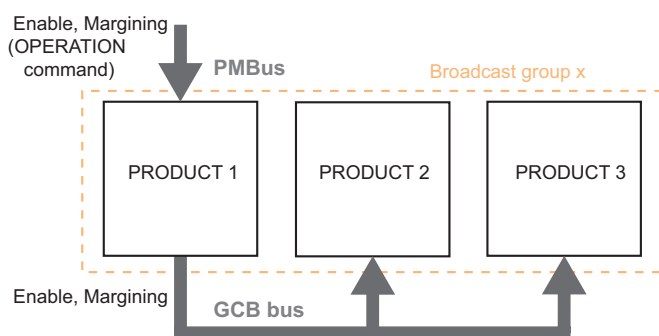

Figure 7. Enable or margining signal will broadcast on the GCB bus.
2. PMBus enable. Sending a PMBus Enable command to any of the products in the group will enable the whole group, as the module will 'broadcast' enable to phases over the GCB bus as shown in Figure 7.